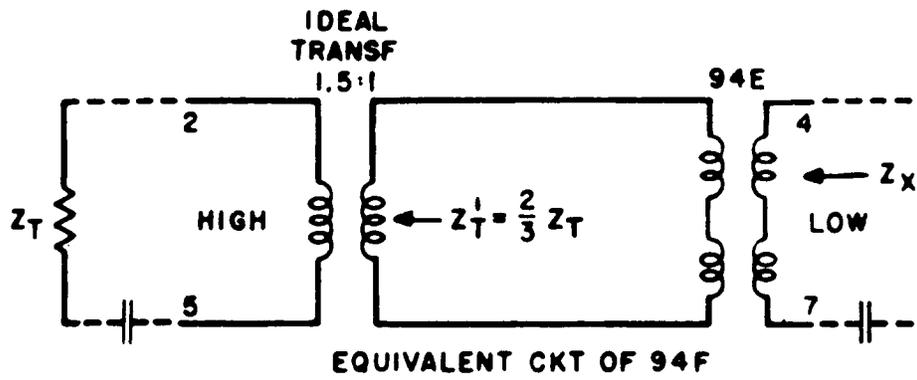

FIG. 2
1.03 The input impedance Z_X looking into the low side of the 94F coil, as indicated in Fig. 2, is obtained by entering the appropriate chart with the value of terminating impedance $Z_T' = \frac{2}{3} Z_T$. The input impedance looking into the high side, as indicated in Fig. 3, is given by $Z_X = 1.5 Z_X'$ where Z_X' is the value of input impedance obtained from the chart for a terminating impedance Z_T .
1.05 The following examples illustrate the computations for two conditions. Determine the impedance at 1000 cps looking into (1) the low side, and (2) the high side of a 94F repeating coil terminated in half section 22-gauge H88 cable, with a 4 mf capacitor on the line side and a 1 mf capacitor on the drop side.
Example (1) - Looking into low side of 94F coil. (See Fig. 2)